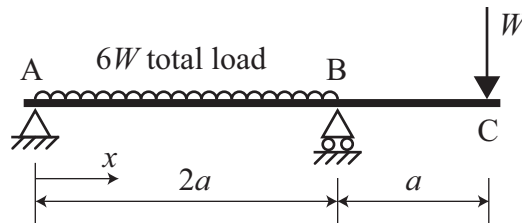

Figure 6
- * 6. Figure 6 shows a uniform beam, ABC , with fully plastic moment, M_p , simply supported at points A and B . The beam carries a load, $6W$, uniformly distributed over the span, AB , together with a point load, W , at the tip, C .